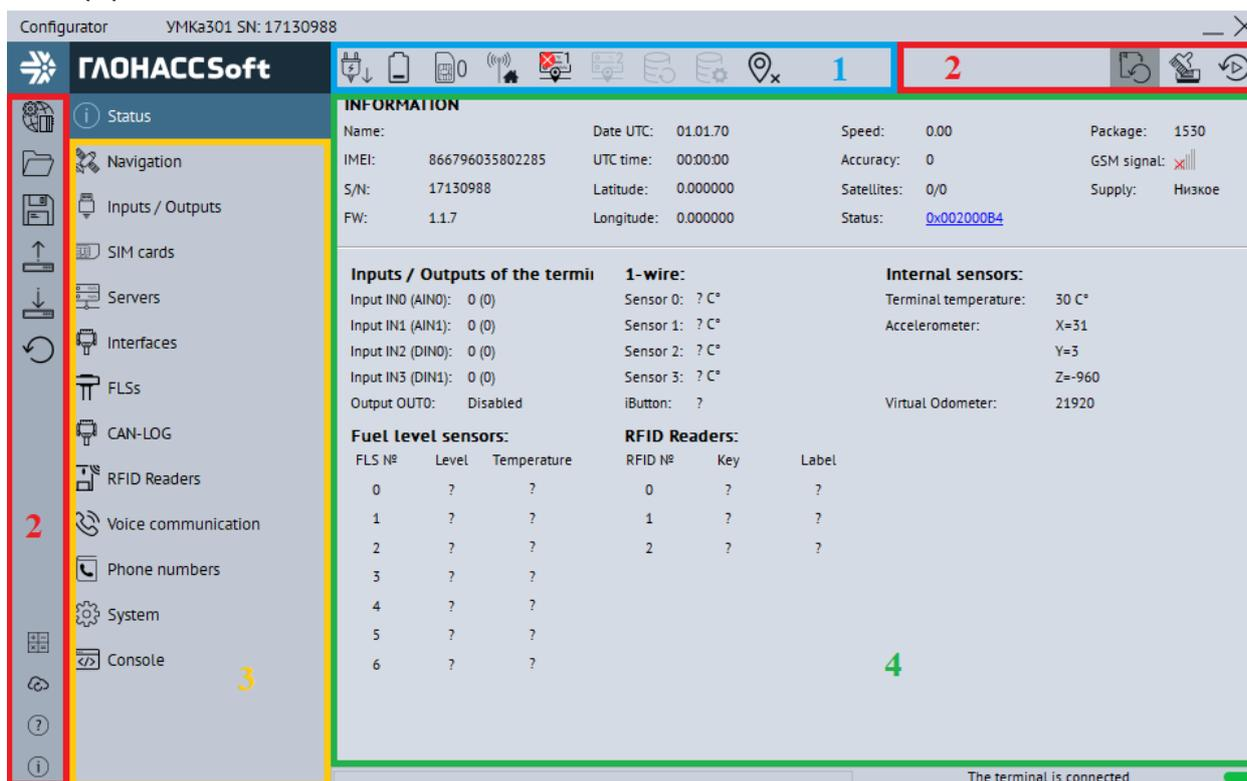

Figure 3.8 Startup window "Status"
To start the application, go to "Start" → "All Programs" → "Configurator UMKa3XX." The startup window of the configurator (Figure 3.8) opens, it can be conventionally divided into four zones: Status panel (1), Toolbar (2), Settings tree (3) and Data display window (4).
To view and edit tracker settings, use the settings tabs (Figure 3.8). When clicking a tab in the data display window, one can view the corresponding values and settings and edit them.
General information about the tracker, tracker input and output statuses, internal and external sensors is displayed in the "Status" tab (Figure 3.8).